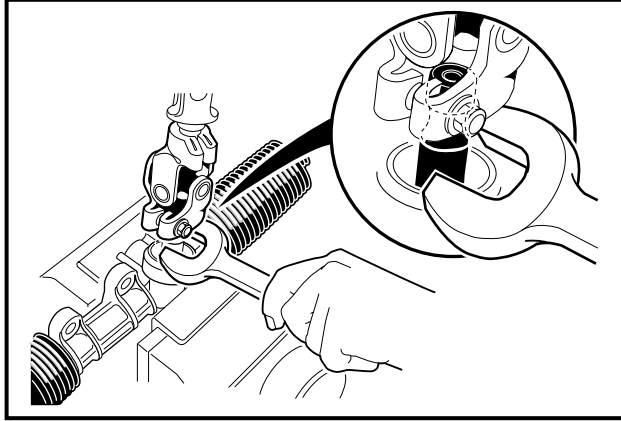

Figure 7-10 Remove Pinion from Housing
10. Install the universal joint onto the pinion and place a large open end wrench under the universal joint (**Figure 7-10, Page 7-10**). Use the wrench as a lever to pull the pinion from the housing.